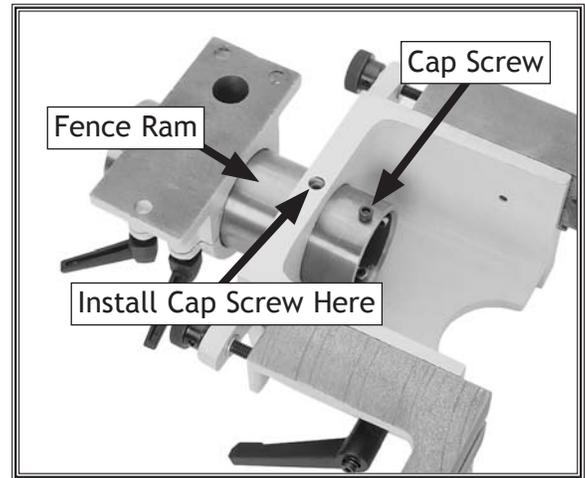

Figure 14. Fence ram and cap screw.
2. Turn the fence assembly upside down to expose the fence ram inside the housing, as shown in **Figure 14**.
3. Remove the cap screw from the end of the fence ram, slide the ram out until the mounting hole in the fence assembly and the ram are aligned, then install the cap screw in the location shown in **Figure 14**.